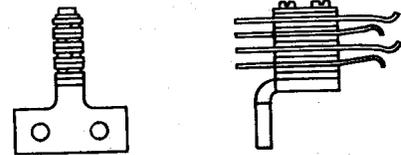

Fig. 1—350A Jack
2.01 350A: This multicontact jack (Fig. 1) is used with the 240A or similar-type plugs. This jack consists of a metal bracket on which there are mounted two pairs of contact springs insulated from each other. This jack is intended primarily for terminating test or switching talking lines in step-by-step machine switching systems. The 350A jack is intended to be mounted on shelf frame work used for mounting wired assemblies. The terminals are arranged for mechanically wrapped connections.